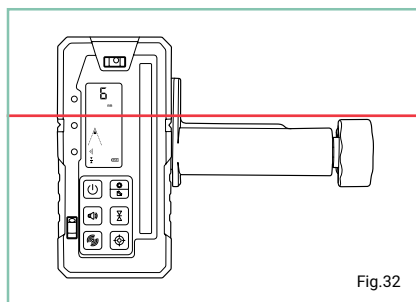
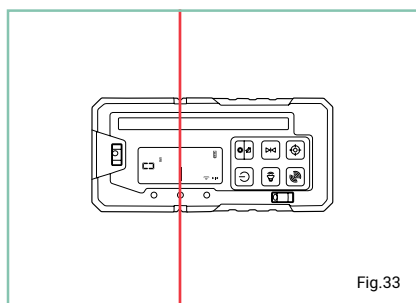

Fig.32
Fig.33
- Move the detector into the path of the beam. Hold the detector upright for horizontal beams (Fig.32) or rotate 90° for vertical beams (Fig.33).